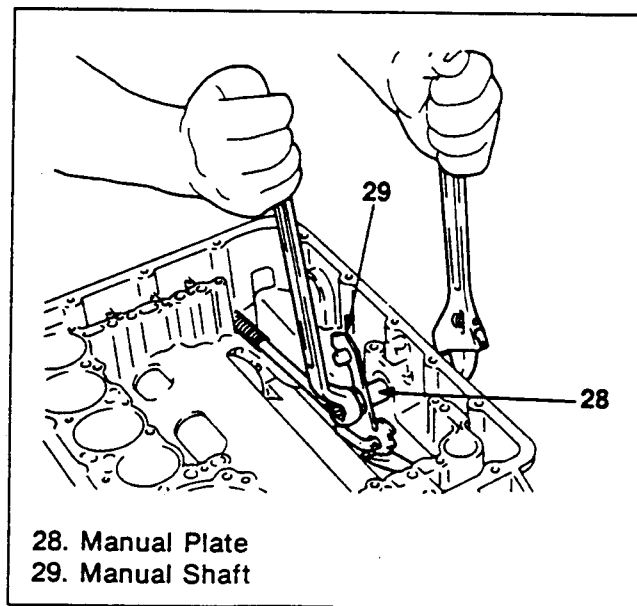

Figure 238. Manual Plate Installation (2)
3. Hold the manual shaft at the flat area with an adjustable wrench and install the manual plate with two lock nuts (figure 238).